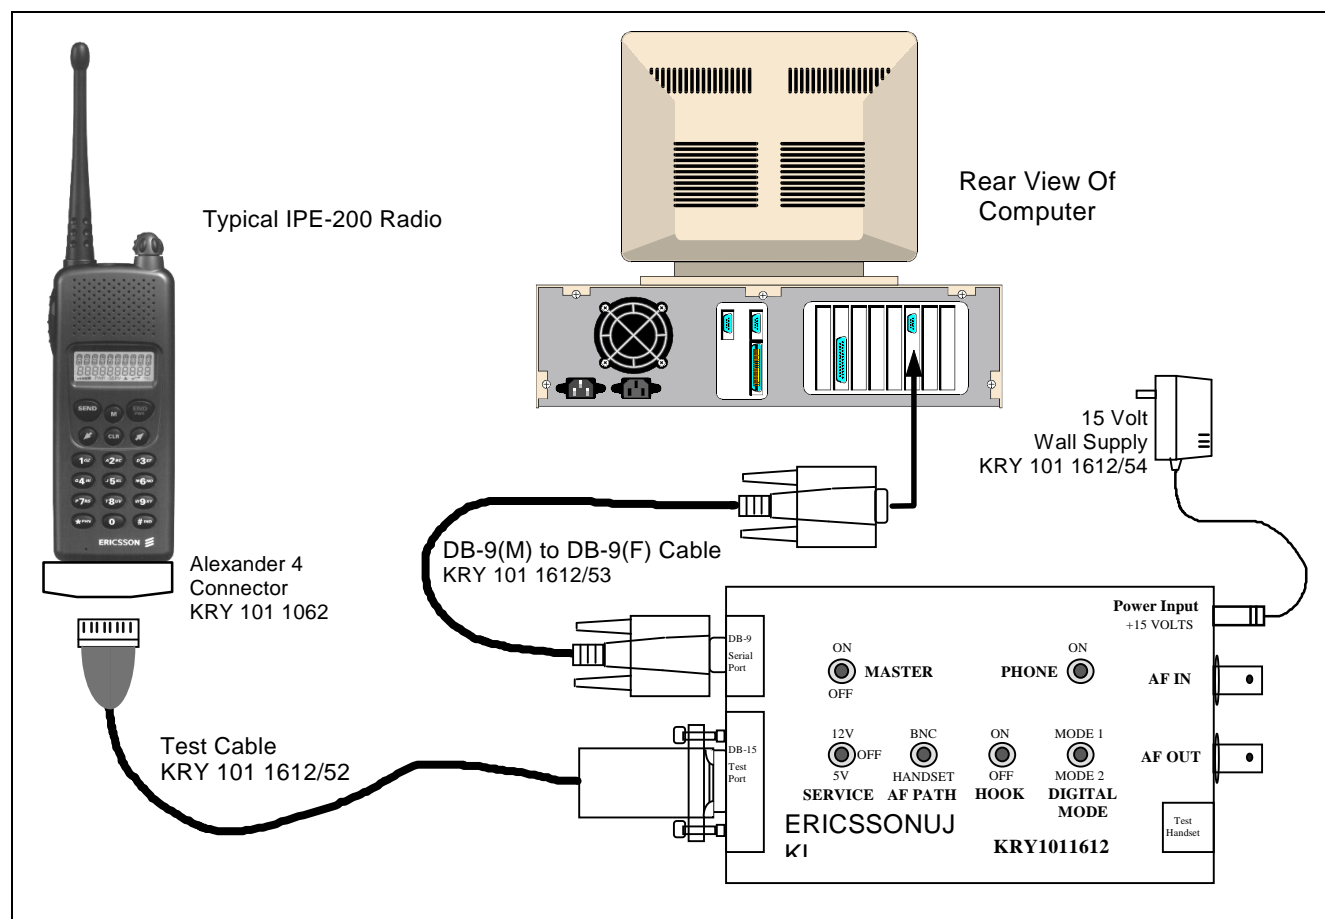

Figure 10 - Personality Programming Equipment Setup
1. Connect as shown in Figure 10 with all switches on Troubleshoot Box (KRY 101 1612) in down or **OFF** position.